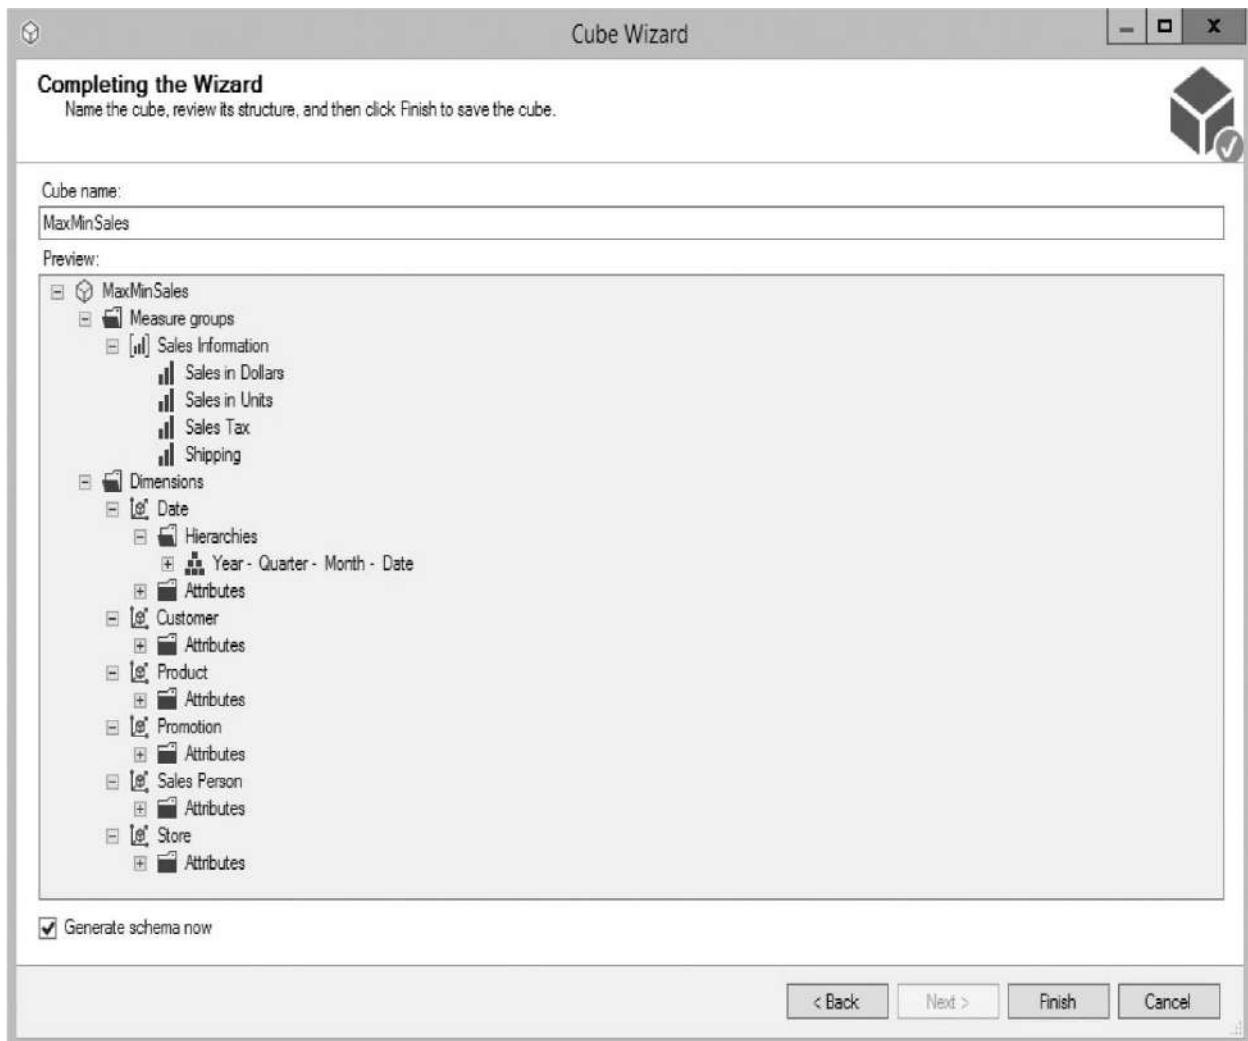

Figure 6-31 Completing the cube in the Cube Wizard
42. We can expand the nodes in Preview to view the measures and dimensions that are to be created in this cube. Note that only the Date dimension has a hierarchy. We add other hierarchies manually. When all the nodes except the Attributes nodes are expanded, the Preview should appear as shown in Figure 6-31. Click Finish.